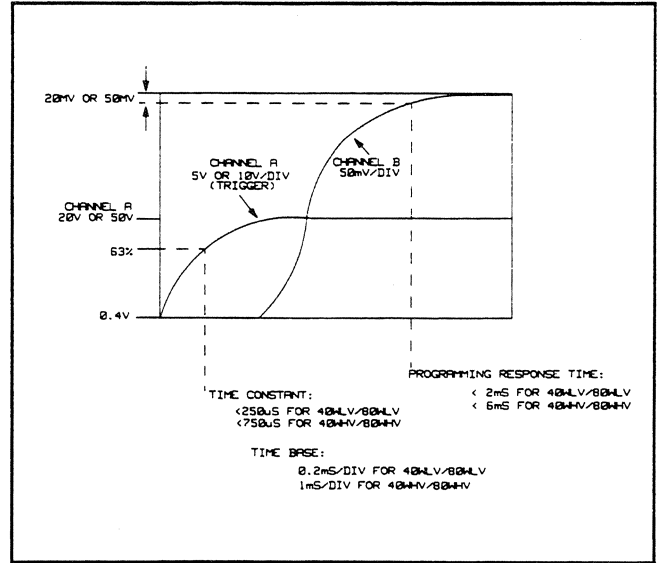

Figure 3-7. CV Up Programming Speed Test Waveforms
i. On Channel A, observe the output voltage transition from the scope's bottom horizontal line to the High Range Full Scale Voltage. Look for a smooth exponential waveform with no "kinks" or aberrations. Perform a time constant check by insuring that the output voltage rises to about 63% of the High Range Full Scale Voltage in less than 250 μ sec. (40WLV/80WLV outputs) or 750 μ s. (40WHV/80WHV outputs). Refer to the Channel A waveform shown in Figure 3-7.